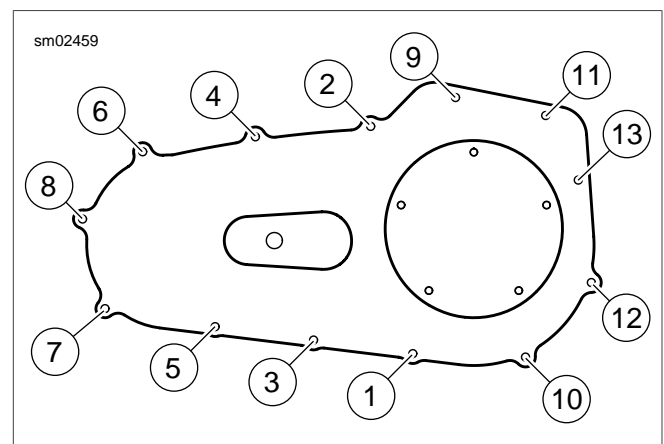

Figure 5-3. Primary Chaincase Cover Torque Sequence
5. See Figure 5-3. Tighten primary cover fasteners (1-13) to 108-120 in-lbs (12.2-13.6 Nm) in the sequence shown.